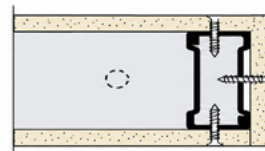

Figure 2 – Wall End (Box Stud)
- C. Insert stud at an angle and twist to lock as shown in the figure below. The friction fit will hold the stud in place. Space studs at 600mm ((where standard = max. 610mm). Make sure that all the studs are facing in the same direction. For corners, junctions and wall ends, it is recommended to use extra studs and “boxing” the studs as shown in Figure 2. Please note that there are several opinions raised in securing the studs to the tracks, although it is not stated in ASTM, it is in the designers and contractors discretion.